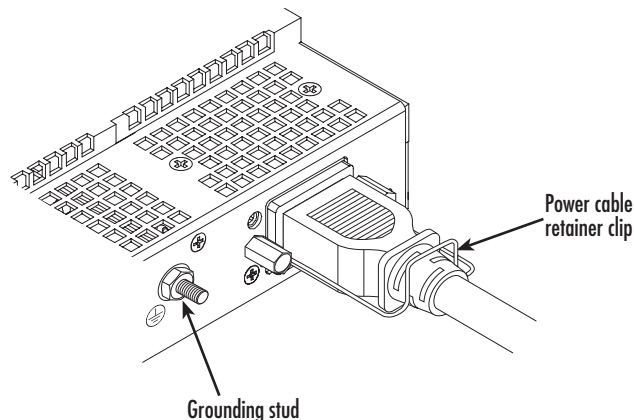

Figure 12. Grounding stud and power cable retainer clip
2. Rotate the power cable retainer clip so it secures the power cable plug in the IEC-320 connector as shown in figure 12.